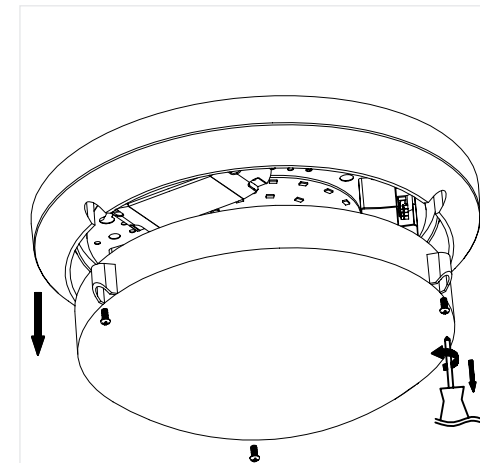

Fig. 1
- Remove shade from the product by loosening the 3 screws around the outside of the shade (Fig. 1). Keep screws in a safe place for refitting later. You may need to use a flat screwdriver to prise the shade away from the ceiling cover.